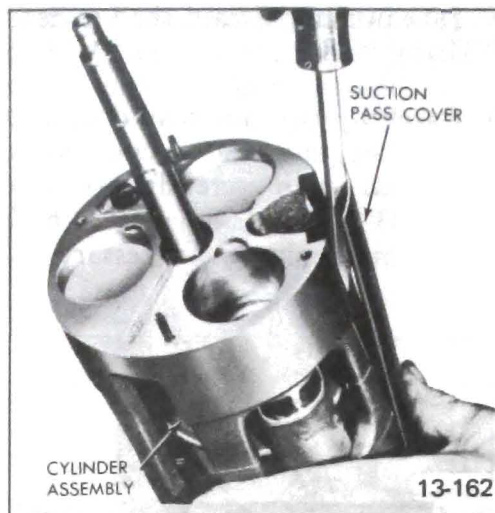

Figure 13-91 Removing Suction Pass Cover
1. Pry off suction pass cover using screwdriver (see Figure 13-91).